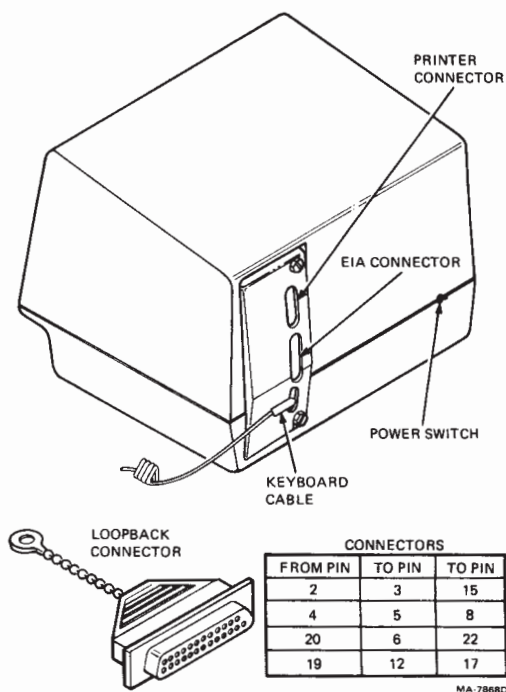

Figure 1-2 Loopback Connectors
1. Install the EIA data loopback connector (Figure 1-2).
- c. Plug the keyboard cable into the back of the terminal (Figure 1-2).
1. Install the EIA data loopback connector on the printer port connector (Figure 1-2).